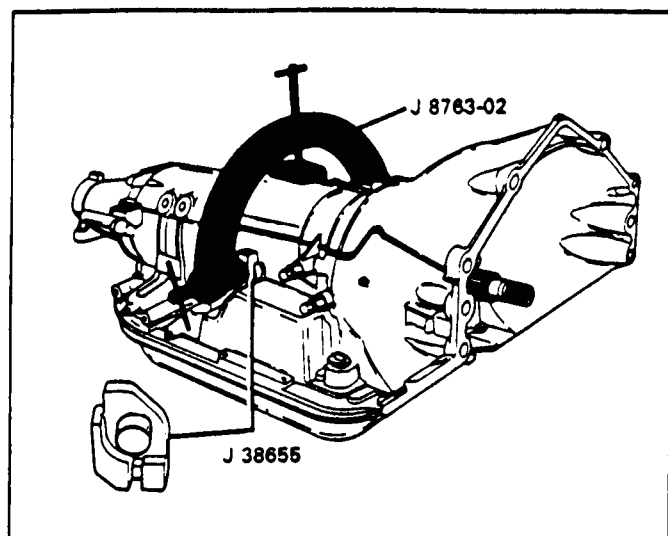

Figure 36
3. Install holding fixture and J-38655 adapter onto the transmission, as shown in Figure 36.